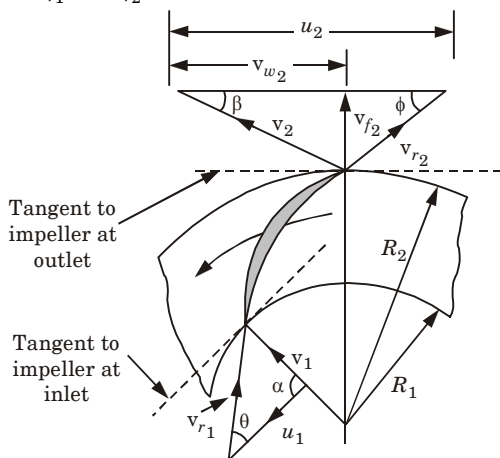

Fig. 5.4.1. Velocity triangles at inlet and outlet.
2. Fig. 5.4.1 shows the velocity triangles at the inlet and outlet.